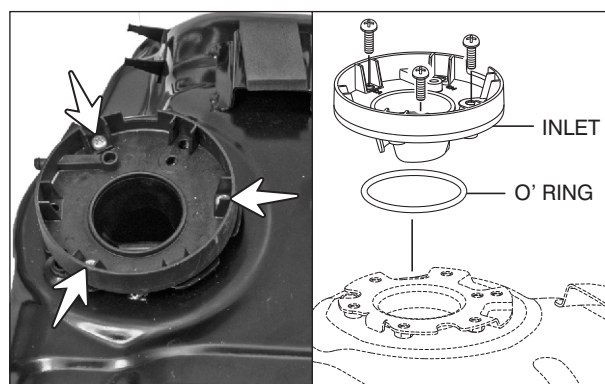

Fig. 2.21
- Remove the CRR pan head screw (M5x12 - 3 nos.) from the mounting of inlet fuel tank complete and take out the inlet along with the 'O' ring. (Fig. 2.21)